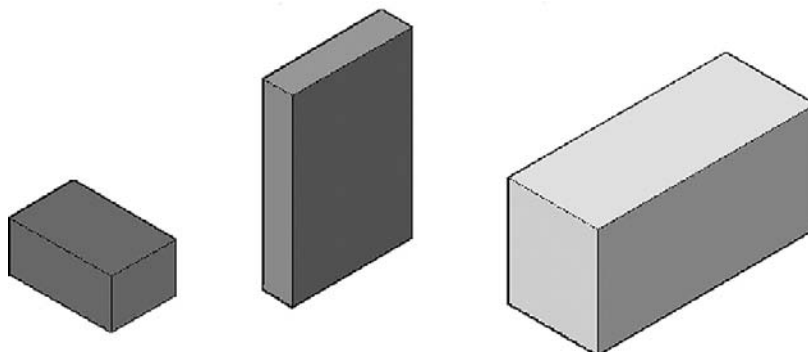

FIGURE 29.9
Step 1. First of all, create a few random blocks of any size, and then shade and color them while in SW Isometric, as seen in Figure 29.9.